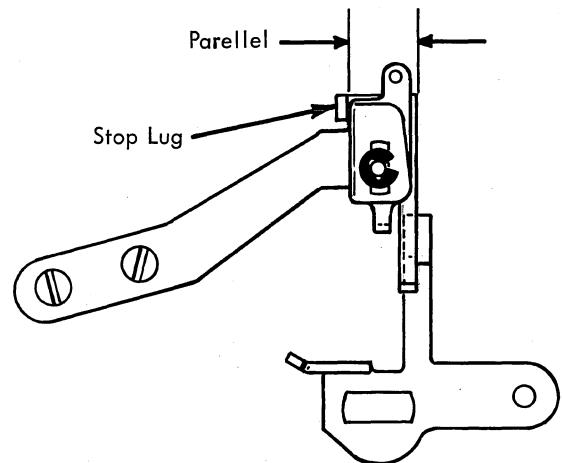

FIGURE 150.4 Margin Rack Latch Bellcrank
7. Margin Rack Latch Bellcrank - Adjust the position of the margin rack latch bellcrank to the margin latch bellcrank bracket assembly by forming the stop lug on the bracket until the front portion of the bellcrank is parallel to the rear edge of the bracket (Fig. 150.4).